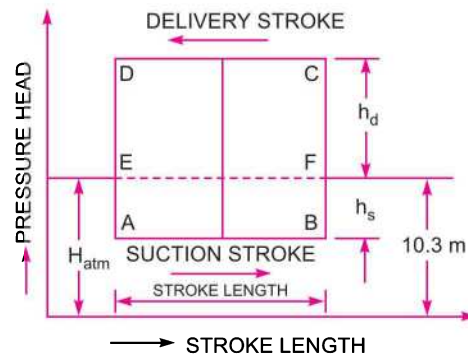

Fig. 20.4 Ideal indicator diagram.
**20.8.1 Ideal Indicator Diagram.** The graph between pressure head in the cylinder and stroke length of the piston for one complete revolution of the crank under ideal conditions is known as ideal indicator diagram. Fig. 20.4 shows the ideal indicator diagram, in which line *EF* represents the atmospheric pressure head equal to 10.3 m of water.
But from Fig. 20.4, area of indicator diagram